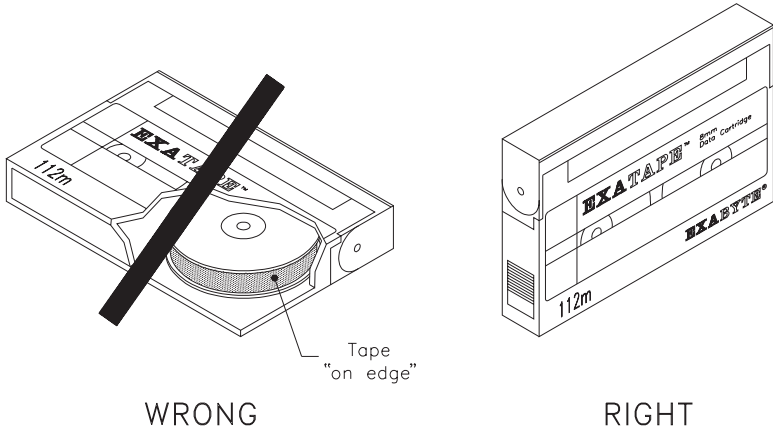

Figure 11 Do not store a data cartridge on its side
- **Store each cartridge on one of its long edges, not flat on its side (see Figure 11 on the following page).** When a data cartridge is stored on its side, the tape inside the cartridge is actually on its edge. In this position, stress is placed on the tape edges and can lead to tape damage. For the same reason, never stack cartridges on top of each other or lean them at an angle for extended periods of time.